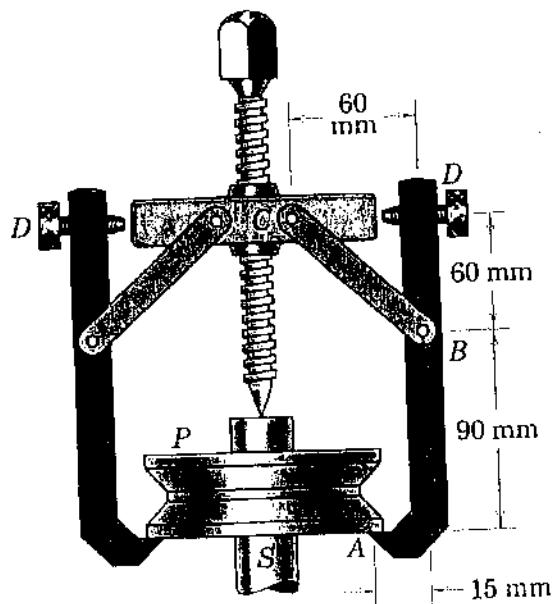

Fig. Q3
3. The Fig. Q3 shows a wheel puller which is designed to remove a V-belt pulley P from its tight-fitting shaft S by tightening the central screw. If the pulley starts to slide off the shaft when the compression in the screw has reached 1.2 kN, calculate the magnitude of the force supported by each jaw at A. The adjusting screws D support horizontal force and keep the side arms parallel with the central screw.